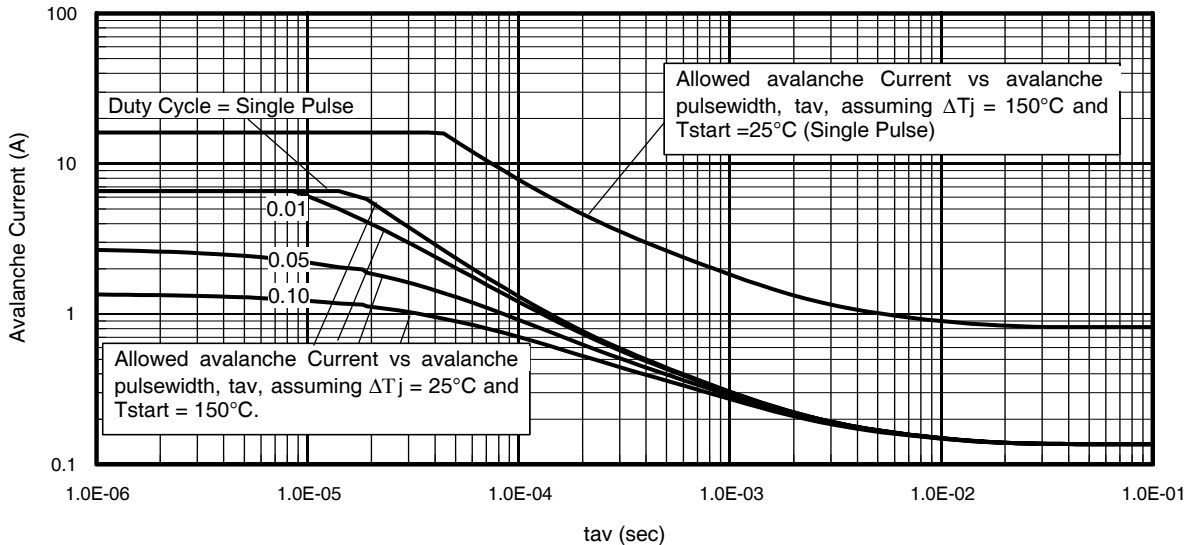

Fig 14. Typical Avalanche Current Vs. Pulsewidth
- ① Repetitive rating; pulse width limited by max. junction temperature. ④  $R_{\theta}$  is measured at  $T_J$  of approximately  $90^\circ\text{C}$ .
② Starting  $T_J = 25^\circ\text{C}$ ,  $L = 1.46mH$ ,  $R_G = 25\Omega$ ,  $I_{AS} = 10A$ . ⑤ Limited by  $T_{jmax}$ . See Figs. 14, 15, 17a, 17b for repetitive avalanche information
③ Pulse width  $\leq 400\mu s$ ; duty cycle  $\leq 2\%$ .
**Notes on Repetitive Avalanche Curves , Figures 14, 15:**
7.  $\Delta T$  = Allowable rise in junction temperature, not to exceed  $T_{jmax}$  (assumed as 25°C in Figure 14, 15).